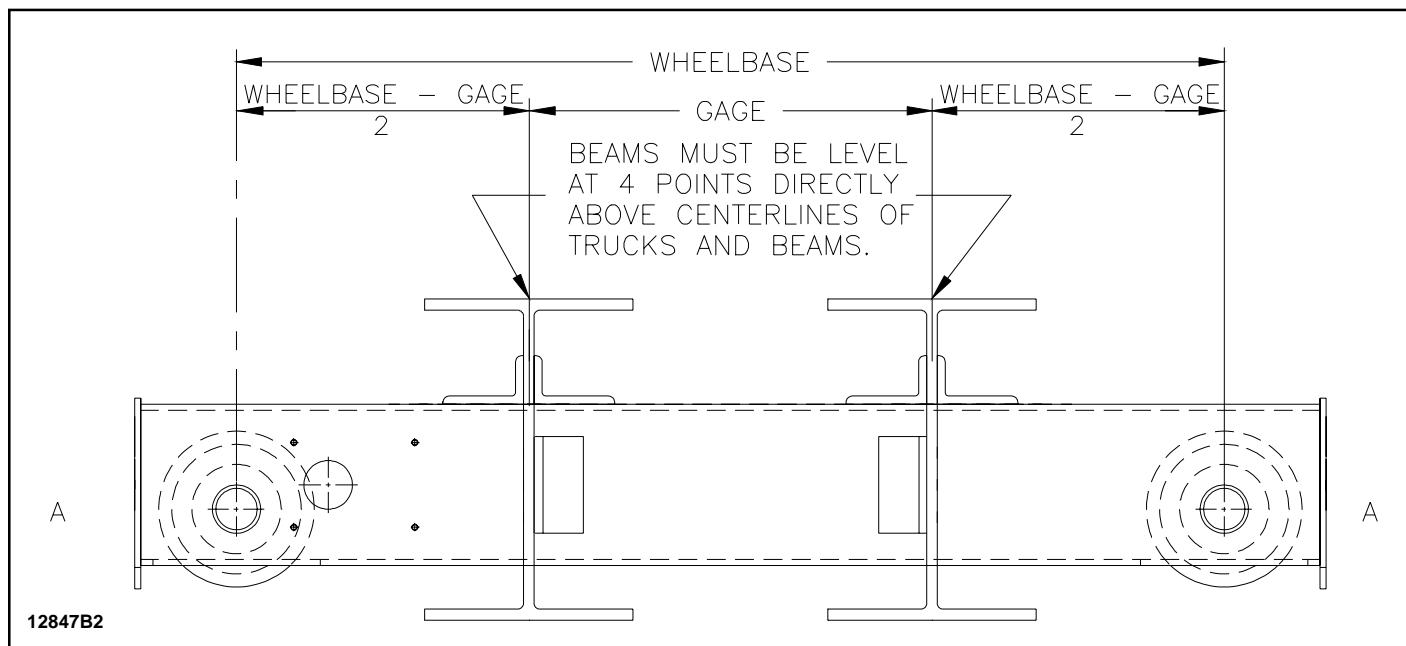

Figure 6.
When setting up the beams on supports, make certain that the **top flanges at the trucks are level** as shown in Figure 6.
2. Locate end trucks in the notch of the girders, one at each end of the girders. Make certain trucks are level with each other and are level at the four points as shown in Figure 6.